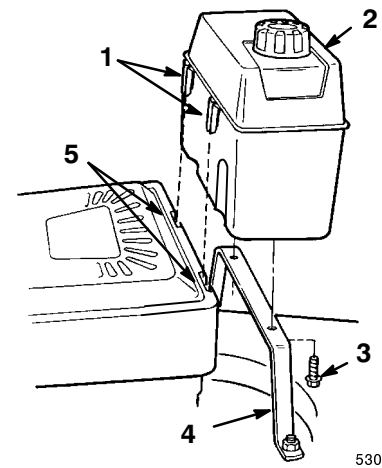

Figure 4
- Start the two self-tapping screws into the bottom of the fuel tank and then remove the screws (Fig. 4).
- Self-tapping screw (2)
- Hook the plastic clips on the front of the fuel tank into the slots on the rear of the engine (Fig. 4).
- Secure the fuel tank to the tank base with the two self-tapping screws (Fig. 4). *Do not overtighten the screws.*
1. Clean around the fuel tank cap (Fig. 4).